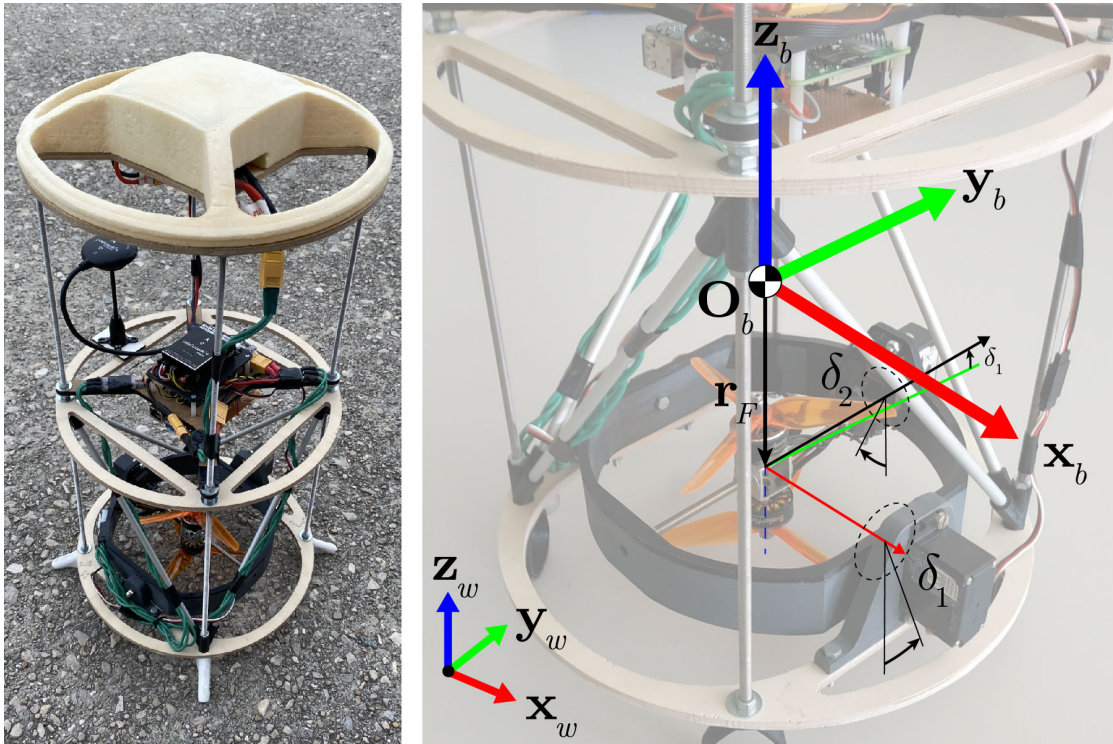

Figure 1: Rocket-shape drone at a glance.
On the way towards thrust vector control for combustion engine rockets, we study a small-scale prototype where the rocket engine is replaced by high-performance drone racing propellers as depicted in fig. 1. The propellers counter-rotate such that their torques cancel each other out in stationary flight. The propeller pair is mounted on a gimbal and can be tilted by two servos.
**System Definition** In order to derive a nonlinear model, consider the following two reference frames. The first one is the body frame (subscript  $b$ ) with the origin  $O_b$  attached to the center of mass of the rocket (see fig. 1). The second one is the world frame (subscript  $w$ ) which is a fixed, inertial frame. We are going to derive a 12-state description of the system with the state vector